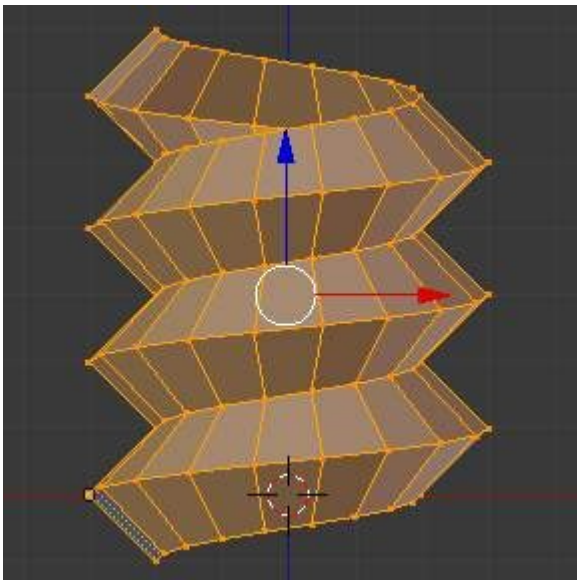

Fig. 15 - Generated Mesh. You can use this technique to perform normal screw modeling.
- Change Steps and Turns as you like. Fig. 15 - Generated Mesh - Shows you an example of the results.